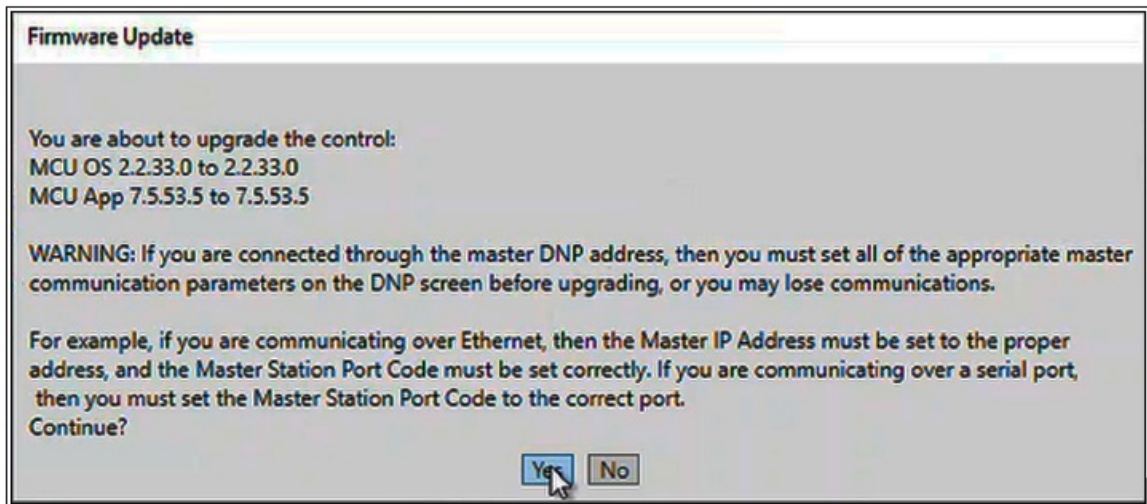

Figure 35. The Firmware Update dialog box.
- **STEP 17.** In the Firmware Update dialog box, click on the Yes button. See Figure 35. Selecting “No” will end the Downgrade process.